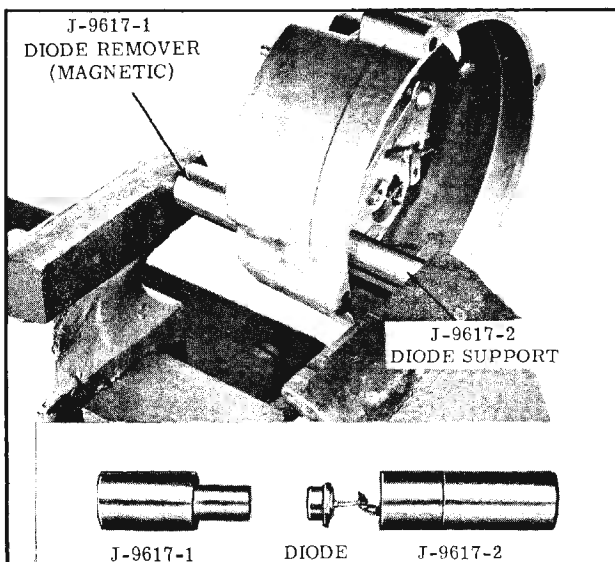

Fig. 14-21 Diode Removal
1. With the Delcotron disassembled and the stator removed, position Tool J-9617-1, J-9617-2 and the slip ring end frame in a vise as shown in Fig. 14-21.